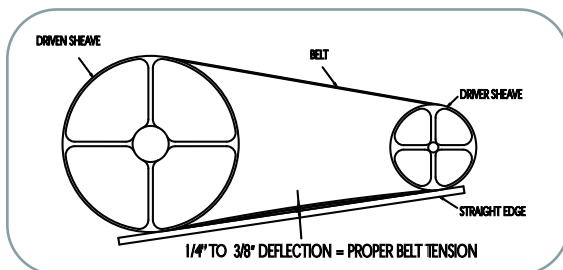
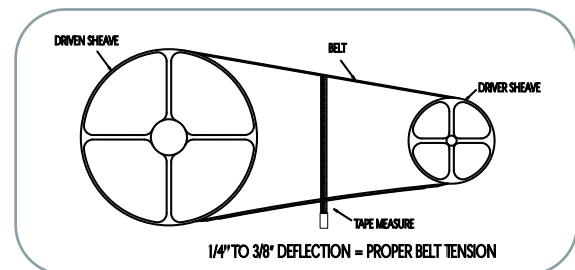

Figure 4a
Figure 4b
- o Place a straight edge along the belt from sheave to sheave as shown in Figure 4a, or use a tape measure as shown in Figure 4b, to measure belt deflection.
- o There is adequate belt tension if the belt deflects between 1/4" and 3/8" as shown in Figures 4a and 4b.